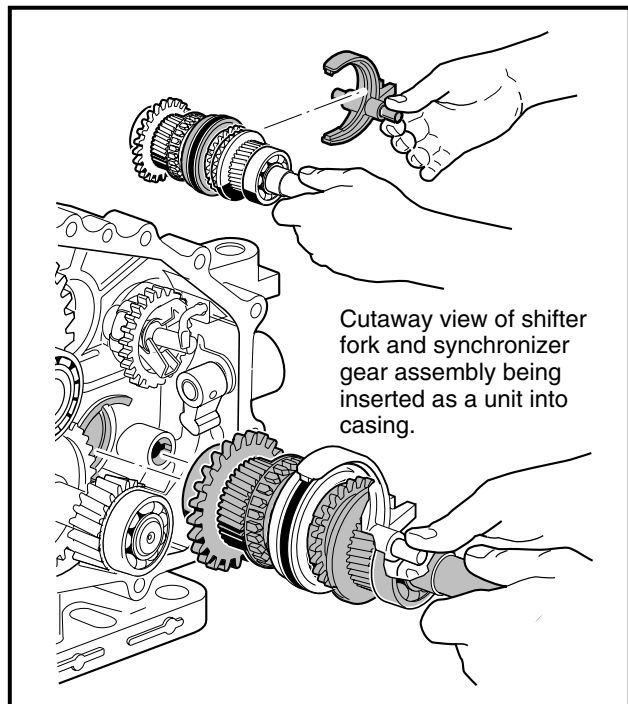
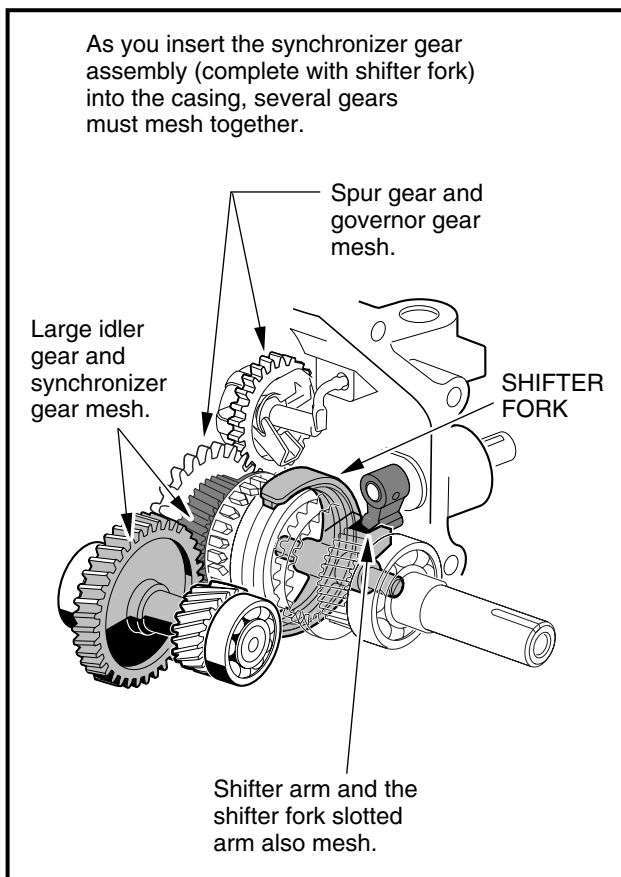

Figure 7-52 Synchronizer Ring Gear
Figure 7-53 Gear Alignment
- 7.4. Position the shifter fork assembly on the synchronizer gear assembly and install them together, bearing end first, into the bore containing the oil guide (**Figure 7-52, Page 7-26**). Do not seat the assembly, but make sure the spur gear (43) is meshed with the governor gear (64) (**Figure 7-16, Page 7-9**), and the shifter lever (19) (**Figure 7-5, Page 7-4**) is positioned in the bracket on the shifter fork. **See also Figure 7-53, Page 7-27.**